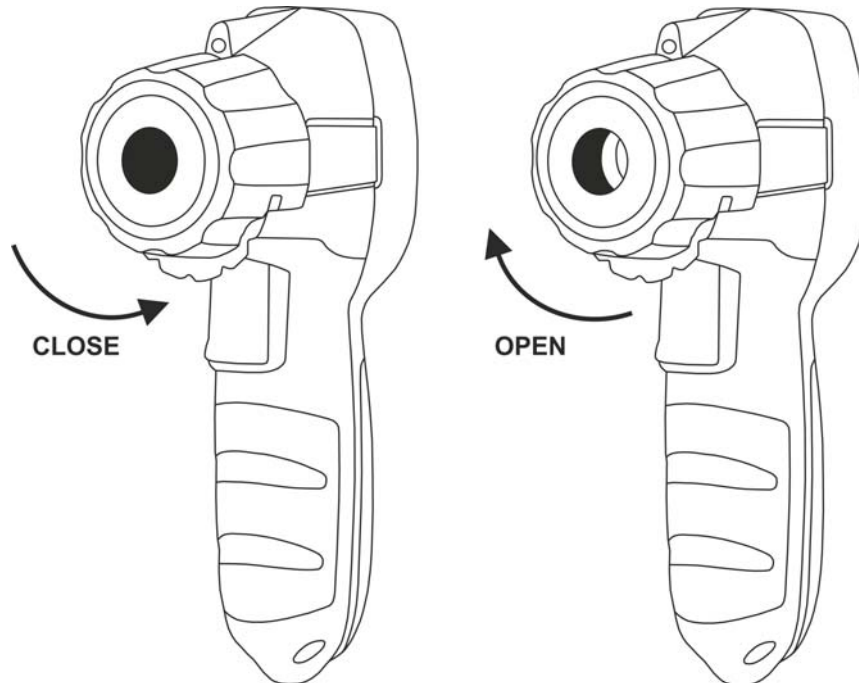

Fig. 14: Opening the protection ring
3. Turn the protection ring (see Fig. 1 – part 3) and open the central hole (see Fig. 14).